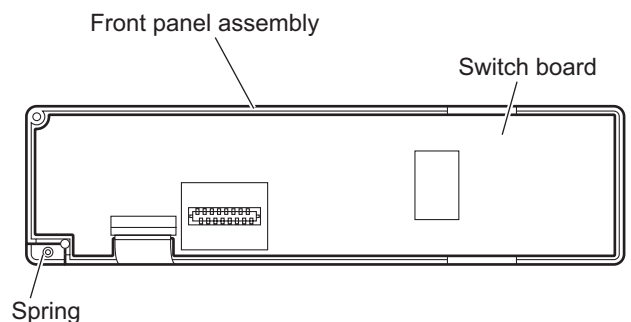

Fig.16
- (3) Take out the switch board from the front panel assembly. (See Fig.16)